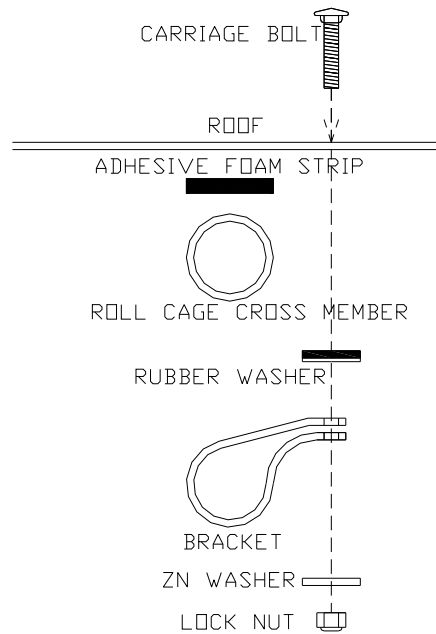

Figure 4
8. Next, attach the front and rear roof mount brackets according to **Figure 4 on next page**. Use channel locks or pliers to hold top of carriage bolt and turn nut with 7/16” socket.
9. Then, once front and rear brackets are attached use holes in the center where panel overlap as a guide to drill through the section of the roof which overlaps. Once holes have been drilled through both panels, attach mounting brackets through both panels according to **Figure 4**.